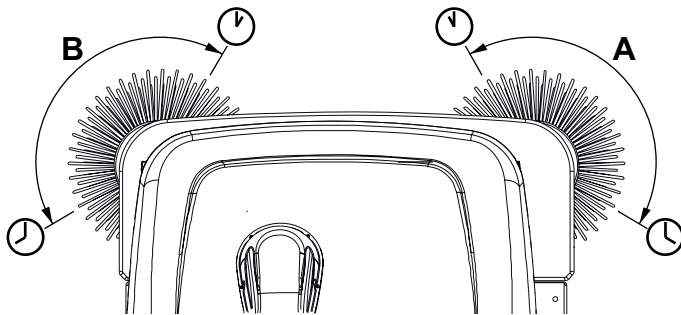

Figure 4
3. Turn the ignition key (66) and start the machine.
4. Lower the side broom with the lever (52) and let it run for 1 minute.
5. When lowered, the side brooms should be contacting the floor as shown in the figure (A and B, Fig. 4).